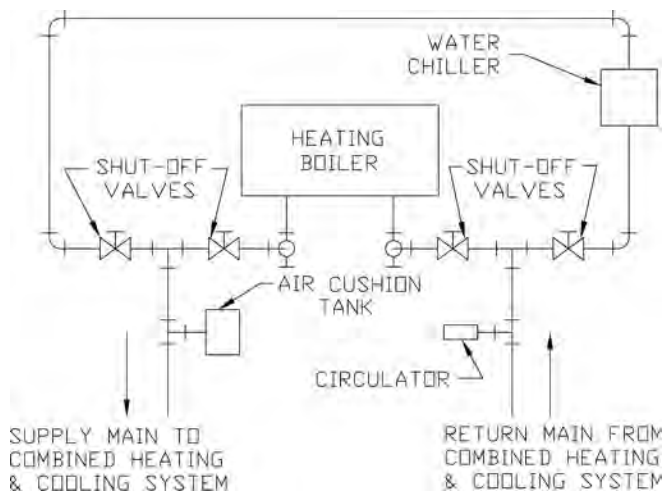

Figure 10: Recommended Piping for Combination Heating & Cooling (Refrigeration) Systems
- d. If this boiler is used in connection with refrigeration systems, the boiler must be installed so that the chilled medium is piped in parallel with the heating boiler using appropriate valves to prevent the chilled medium from entering the boiler, see Figure 10. Also consult I=B=R Installation and Piping Guides.